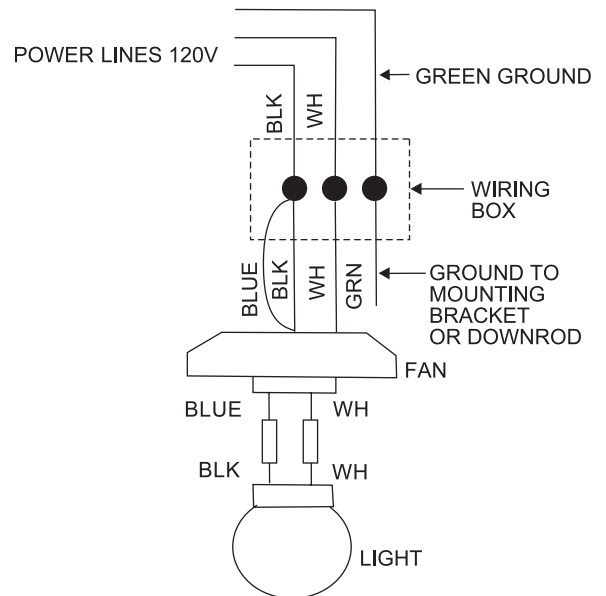

Figure 10
**Step 1** Connect the fan supply (black) wire and light supply (blue) wire to the black household supply wire as shown in Figure 10.